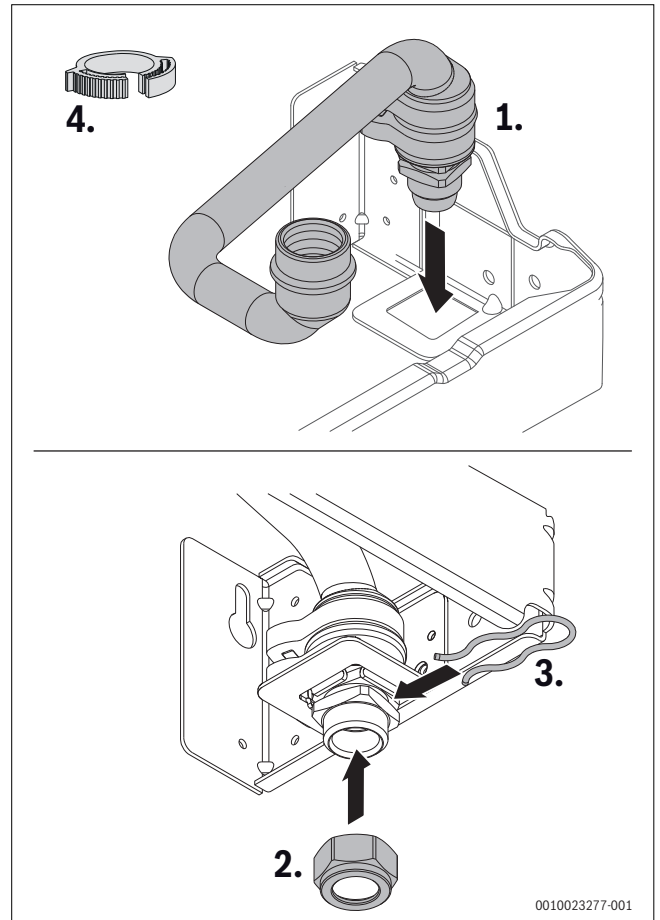
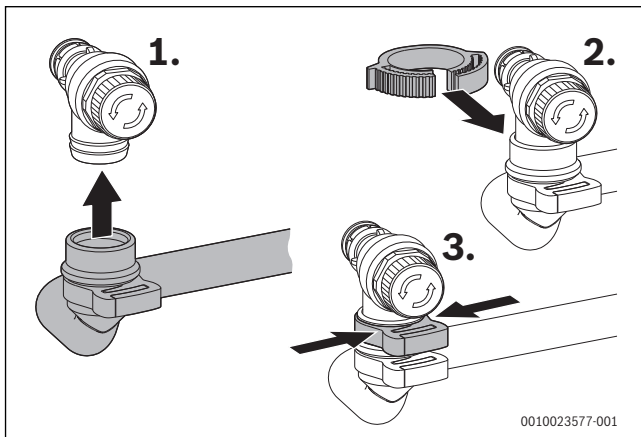

Fig. 42 Connect PRV discharge pipe
Fig. 44 Fitting the pipe on the (heating) pressure relief valve
3. Ensure that 3 black plastic ratchet clips are securely fixed and tightened. Ratchet clip number 4 must be fitted but left loose until the boiler is hung and connection to the PRV is made (→ Fig. 42 and Fig. 44).